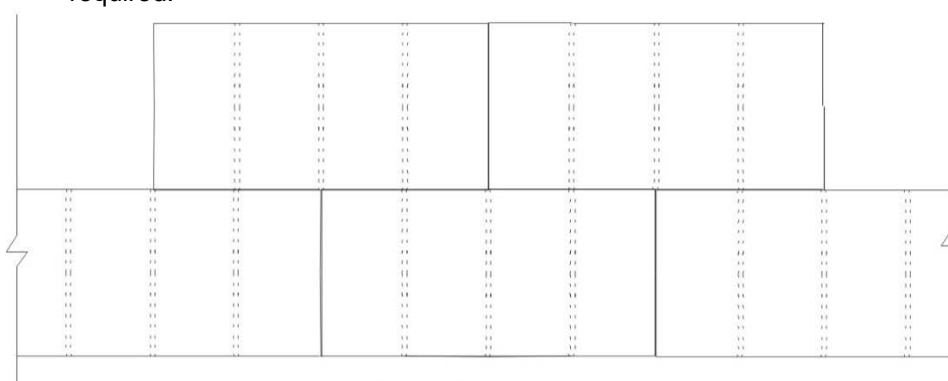

Figure 6
8.3.6. Install subsequent rows of insulation board in a running bond pattern (vertical joints staggered) as shown in Figure 6. Please note the alignment of vertical grooves is not required.